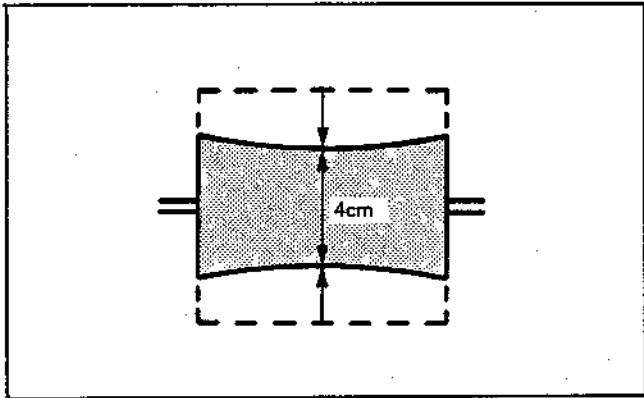
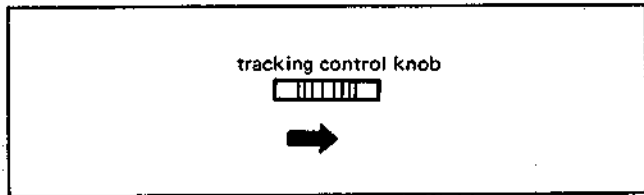

Fig. 2-5 2/3 Right Turn Waveform
Fig. 2-6 Right Turn
- 7) Turn the tracking control knob to the right (Fig. 2-6), as seen from the front, so that the center of the RF output waveform on the oscilloscope is 4cm. (Fig. 2-5) Normally, "2/3 right turn = 4cm waveform". Tape path adjustment is performed in this state. The following adjustments are all performed at 2/3 right turn waveform unless otherwise indicated.